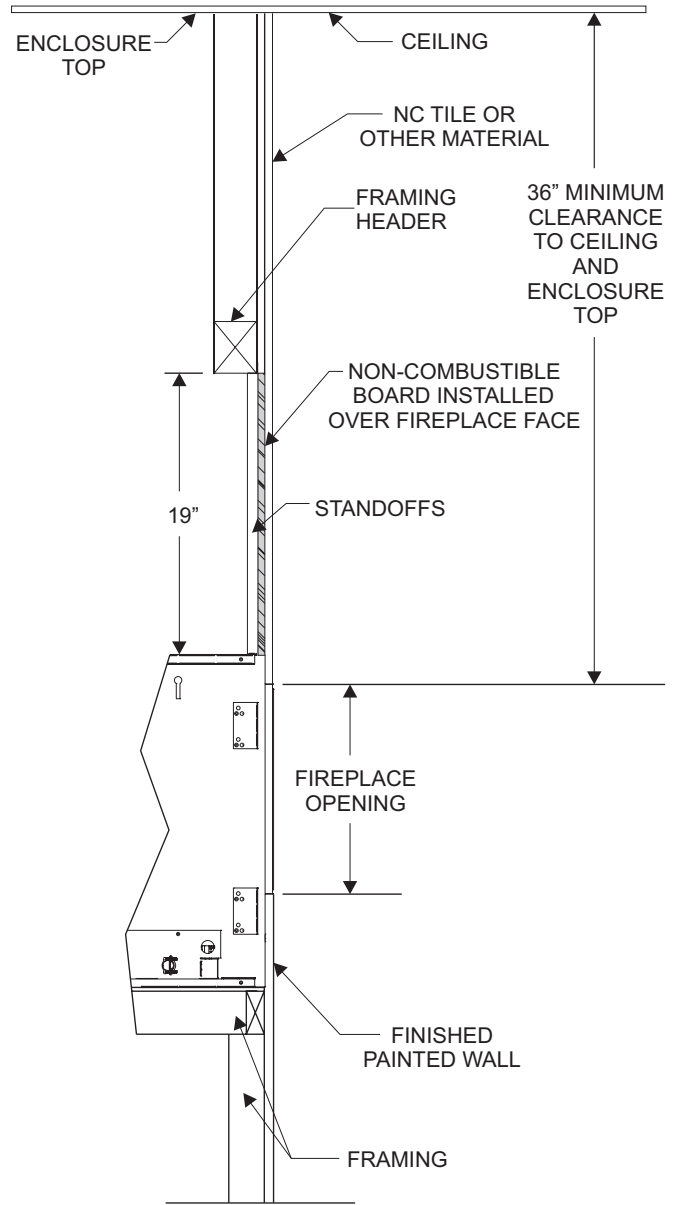

**Figure 50**
- Screws are allowed in framing and top mounting brackets. No screws are allowed into the fireplace face. **See Figure 50.**